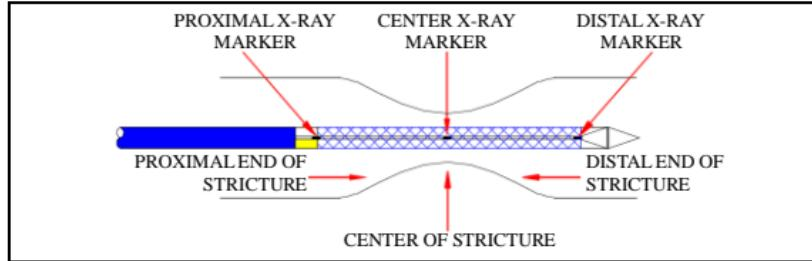

Figure 4
- d) When the center X-ray marker reaches the center of target stricture, continue pulling back on the connector until the stent is fully deployed. (See figure 4, 5)